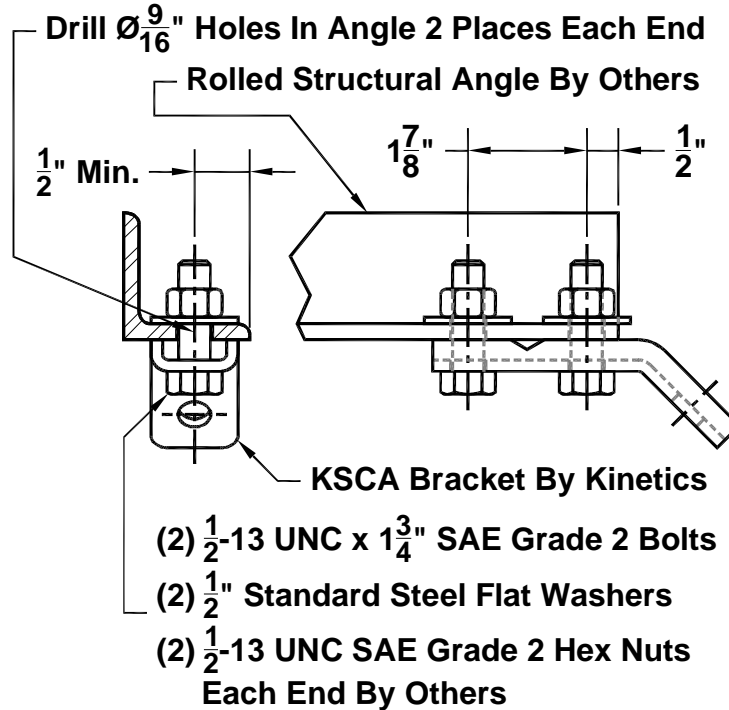
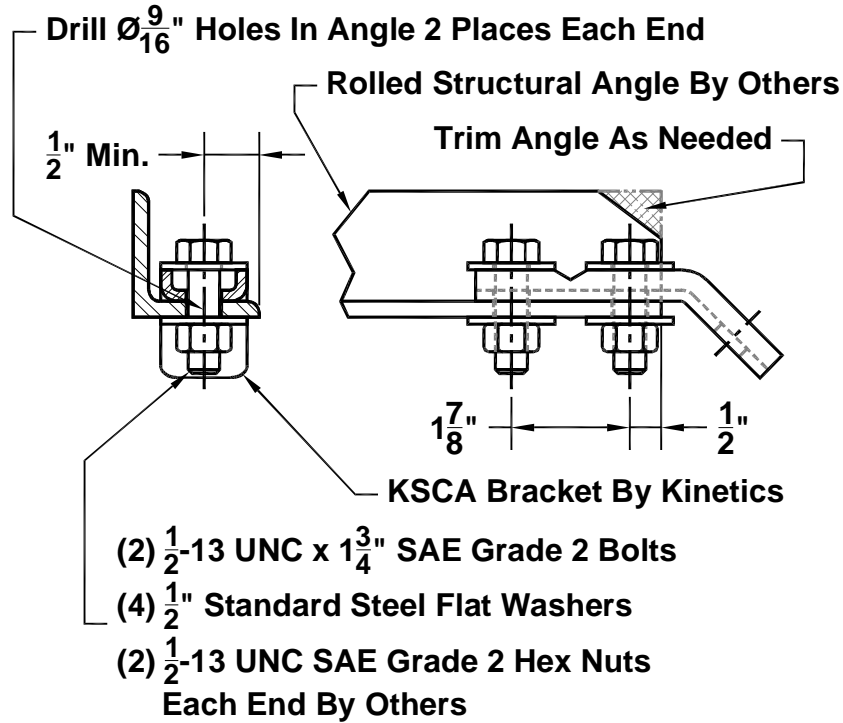
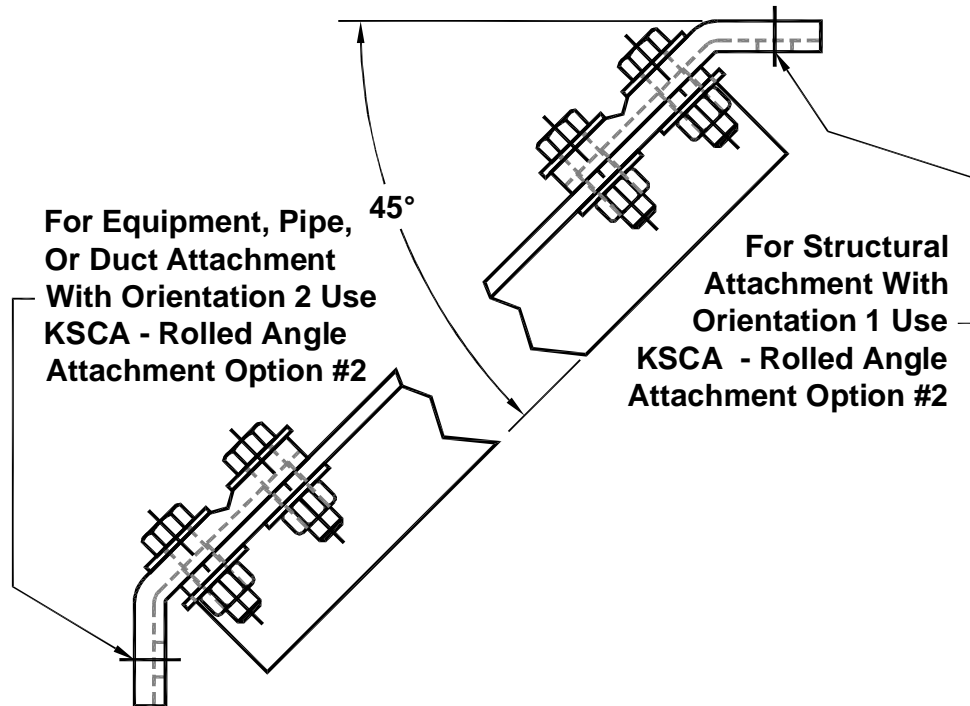

Figure I7-20; Attachment of KSCA Bracket to Rolled Angle – Option #1
Figure I7-22; Attachment of KSCA Bracket to Rolled Angle – Option #3 Trim as Angle Needed
Figure I7-25; KSCA Brackets – Rolled Angle for Seismic Strut Restraints–General Arrangement #1
2. The attachment hardware sizes and grades are as specified in Figures I7-20, I7-21, I7-22, I7-23, I7-24, I7-35 and I7-36.
There are five workable options available for attaching KSCA brackets to rolled structural angles. These options are shown in Figures I7-20, I7-21, I7-22, I7-23, and I7-24. Options #3, #4, and #5 shown in Figures I7-22, I7-23, and I7-24 may require that the corner of the angle leg be trimmed to eliminate interference with the structure, equipment, pipe, duct, or KSCA bracket. Combinations of the first three attachment options may be used to create at least ten practical general strut restraint arrangements which are illustrated in Figures I7-25 through I7-34.